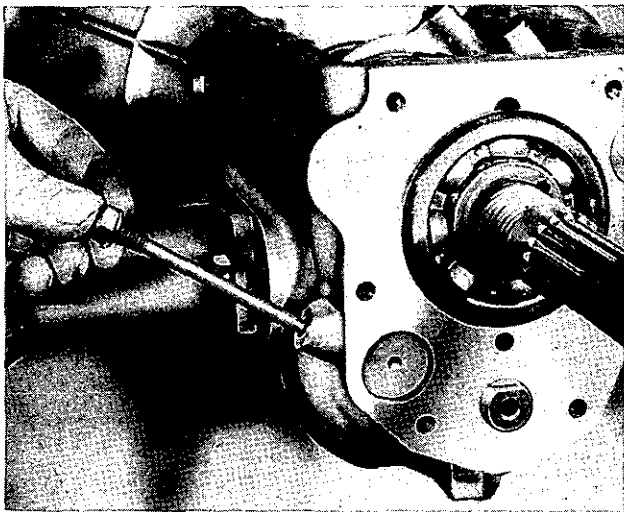

Fig. 4. Showing the removal of the countershaft and reverse pinion locating setscrew
8. Withdraw the countershaft locating setscrew ( $\frac{1}{2}$ " A/F spanner) as shown in Fig. 4.